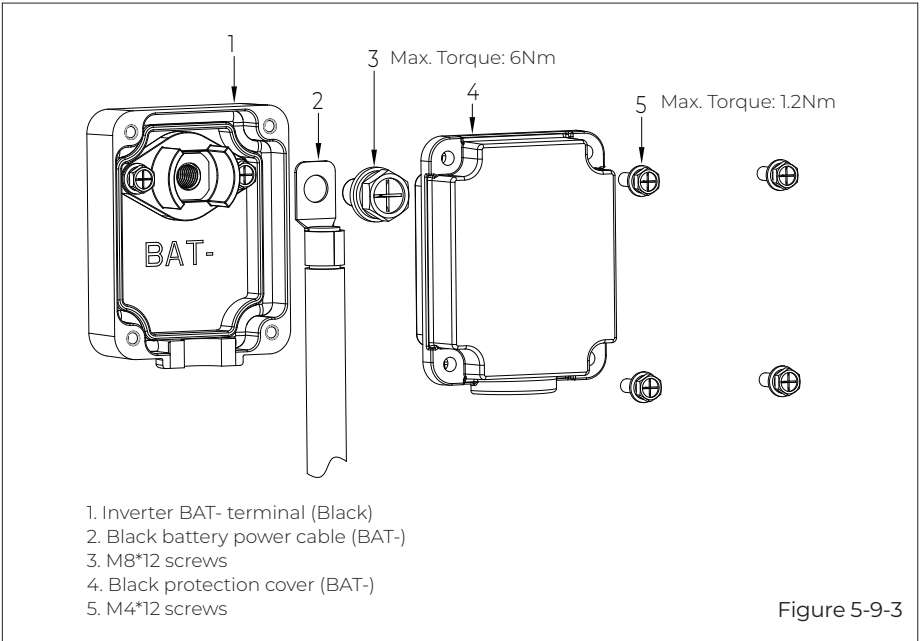

Figure 5-9-3
- Secure the black protection cover with M4 screws. See Figure 5-9-3.